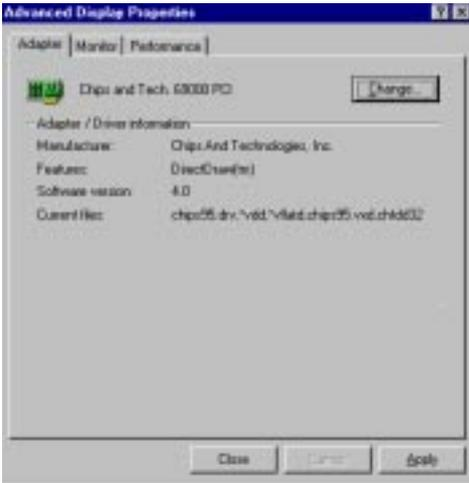

figure 6
3. Once the installation is complete, the Advanced display Properties window will reappear. Show as figure 6: